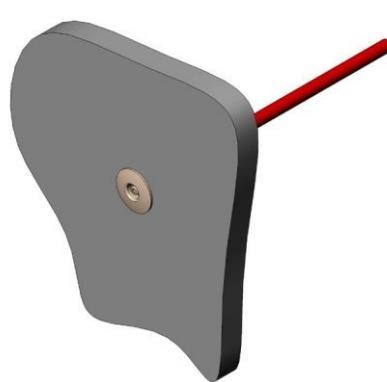

Figure 4: Push Pressure Port onto Wall and Remove Blue Cap
6. Remove protective cap from pressure port (Figure 4).